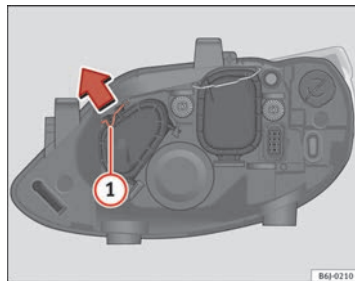

Fig. 148 Side lights
- Move the loop ① in the direction of the arrow and remove the cover ⇒ fig. 148.